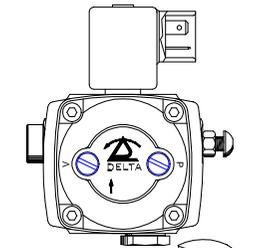

Fig. 1
- a) Using a 19 mm wrench, remove the 1/4" plug from return port (Fig. 1).
- b) Insert and screw a 1/4" plug into the return port (Fig. 1).